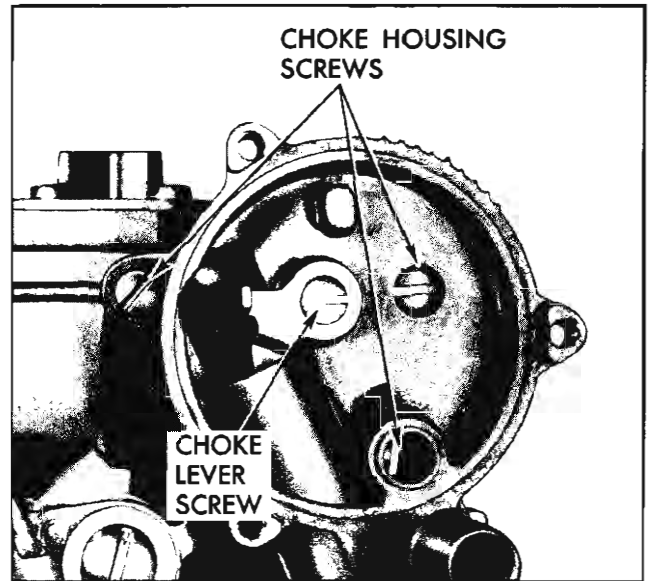

Fig. 6B-104 Location of Choke Housing Screws
4. Remove three choke housing to body attaching screws (Fig. 6B-104) and remove choke housing and gasket.